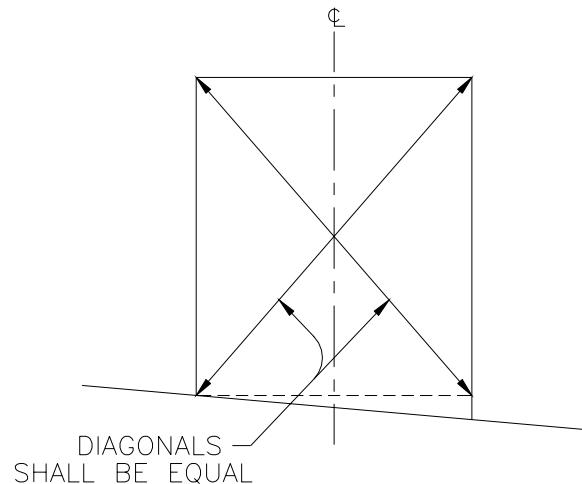

FIG. 1
- If measurements do not coincide, see Figures 1, 2, and 3.
- If floor is sloped, level the floor in and around door opening (Figure 1).